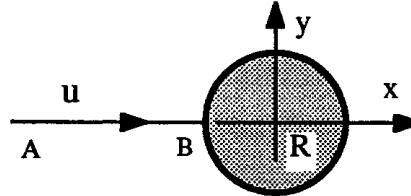

Fig. P1.22
**1.22\*** According to the theory of Chap. 8, as a uniform stream approaches a cylinder of radius  $R$  along the line AB shown in Fig. P1.22,  $-\infty < x < -R$ , the velocities are